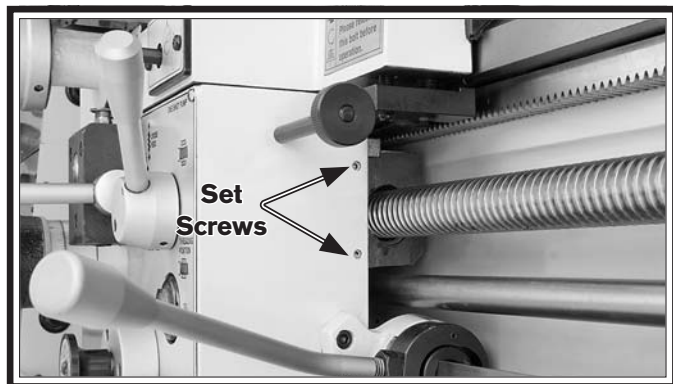

Figure 122. Half nut gib adjustment.
2. Turn the two set screws (see **Figure 122**) clockwise to tighten the half nut and counterclockwise to loosen it.